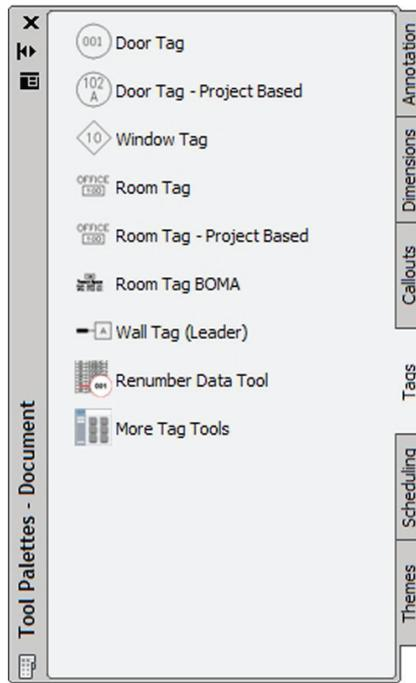

Figure 4: Room Tags
- Load the desired tag that you will use to label your space objects. Go to the Document palette and select the Tags tab. Left-click the Room Tag BOMA and then use the ESC key to deselect (see Figure 4). This is a simple way to load an object or object style into a drawing file without actually placing.